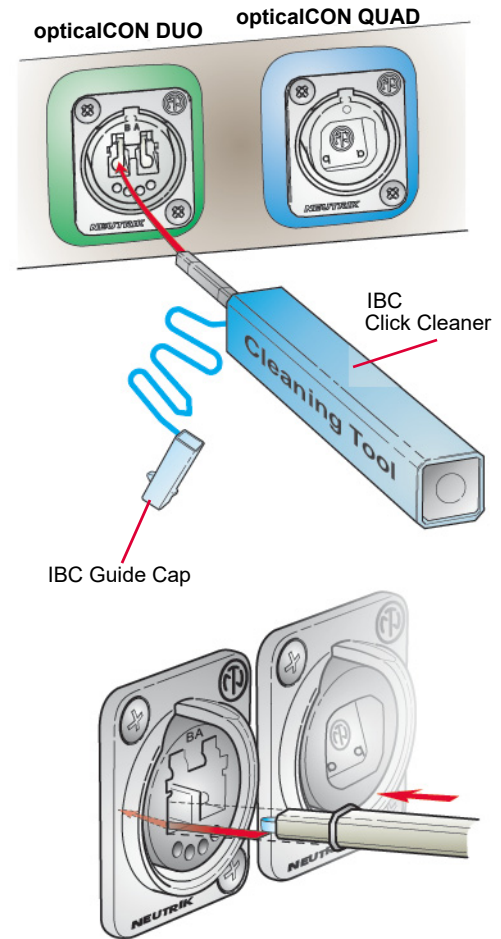

Figure 2-20:
- Step 5. Carefully align the IBC stick on a fiber ferrule hole. **(Figure 2-20)**
- Step 3. Using your finger, press down on the chassis spring mechanism to open shutter door. **(Figure 2-20)**